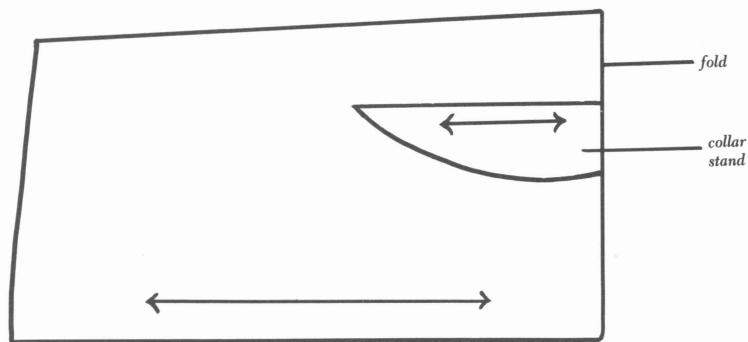

Figure 19. Cut center back of interfacing on fold.
6. Cut interfacing to fit the undercollar from the roll line to the neck seamline with the center back seam line on a fold of the fabric (Figure 19).